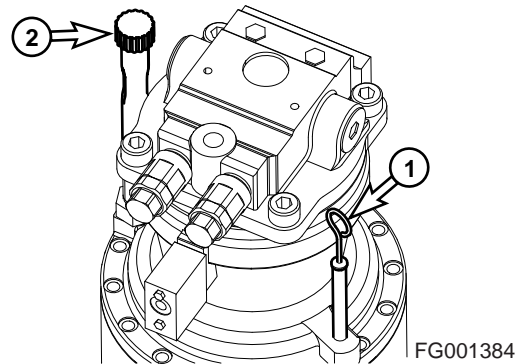

Figure 25
1. Remove dipstick (1, Figure 25) and wipe the oil from the dipstick with a cloth.
2. Insert dipstick (1, Figure 25) fully into dipstick tube.
4. If the oil does not reach the "L" mark on the dipstick, add oil through fill port (2, Figure 25).